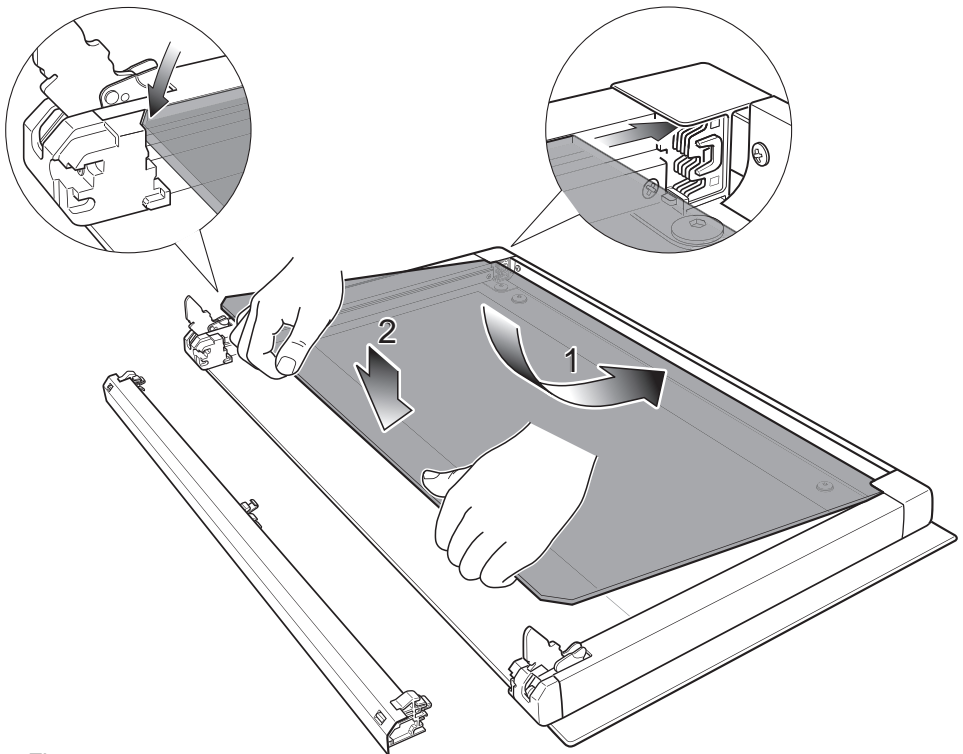

Fig. 4.11
1. Insert the inner glass pane in the uppermost pair of grooves and push it slightly (arrow 1 in figure 4.11).
2. Gently lower into place (arrow 2 in figure 4.11).